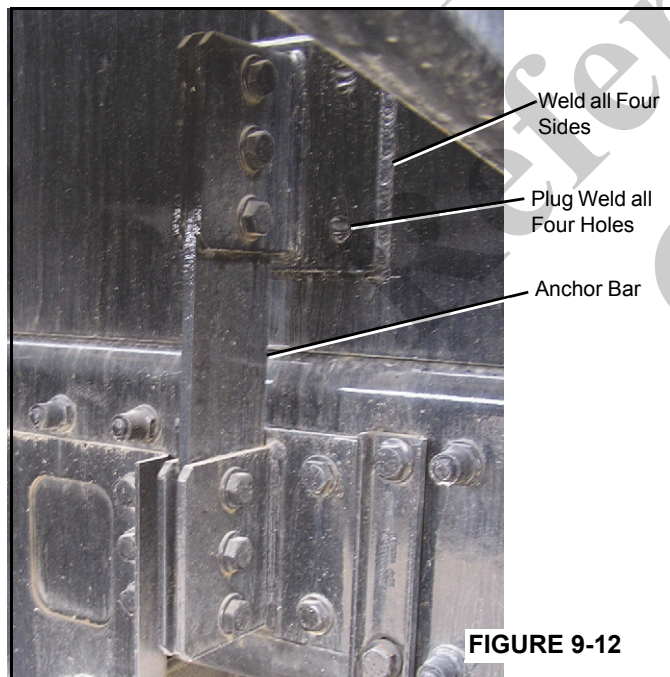

FIGURE 9-12
3. Weld each plate on four sides Figure 9-12.
4. Bolt the anchor bar (Figure 9-12) to the upper mounting plate finger tight.